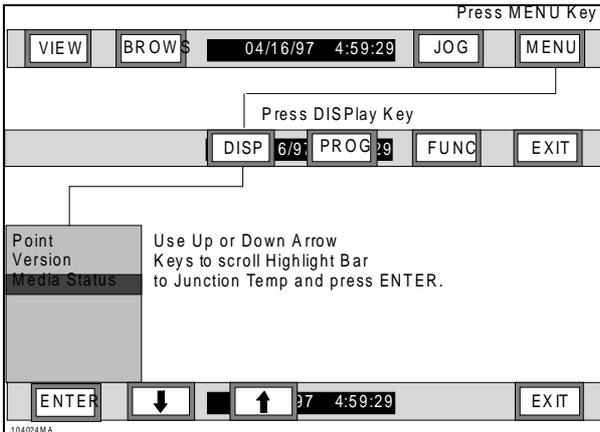

Figure 3-26 Display Junction Temperature Flow Chart
C. Junction Temp - To display Cold Reference Junction Temperature, refer to Figure 3-26 and perform the following steps: